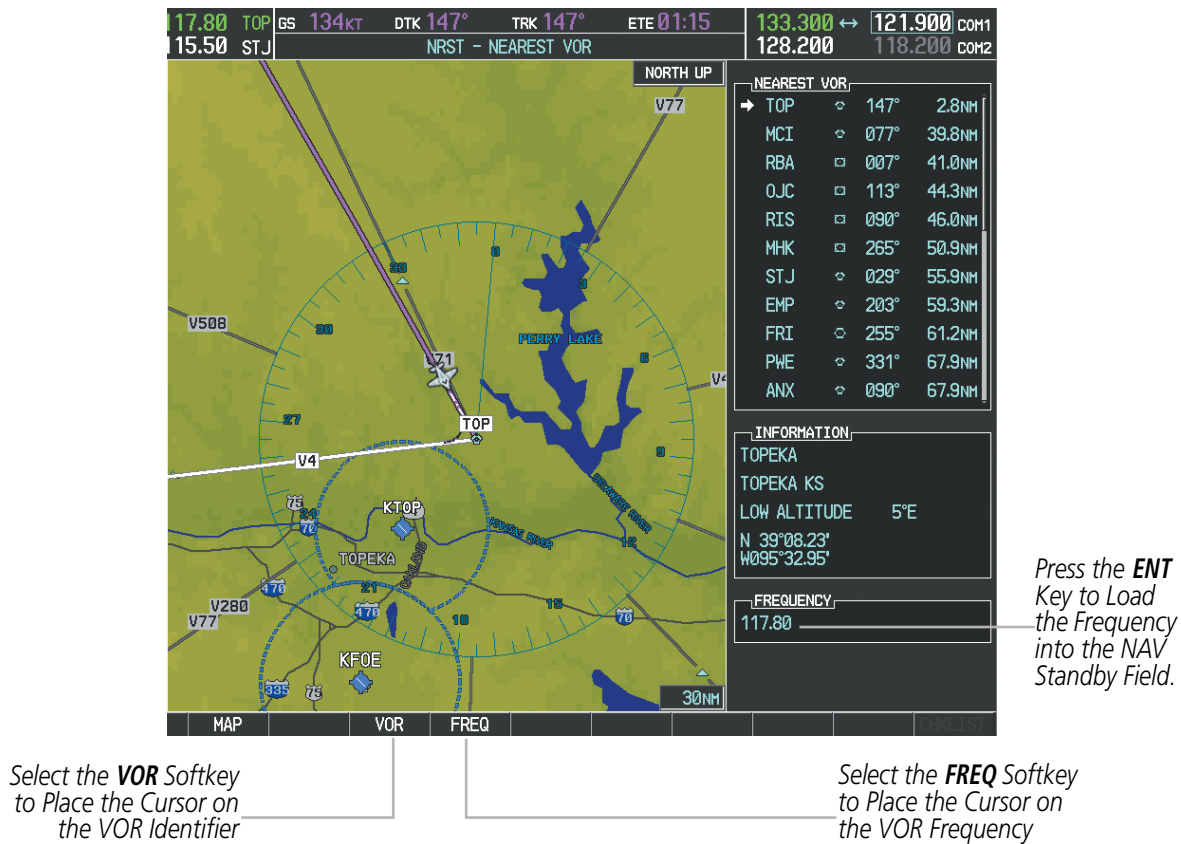

Figure 4-25 Loading the NAV Frequency from the NRST – Nearest VOR Page
- 3) On the Nearest VOR, Nearest Airspaces, and Nearest Airports pages, select the **FREQ** Softkey to place the cursor on the NAV frequency (Figure 4-25).